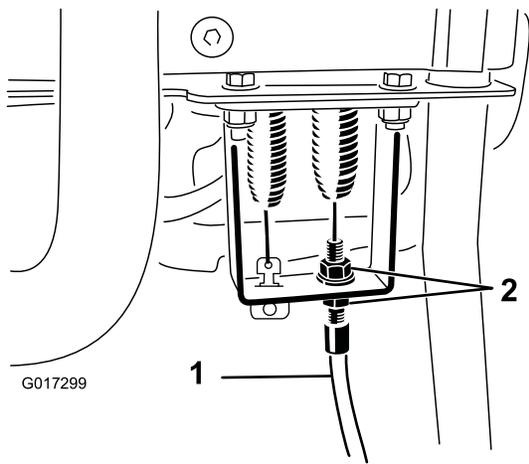

Figure 45
4. At the control handle bulkhead, loosen the reel-control cable until there is slack in the cable (Figure 45).